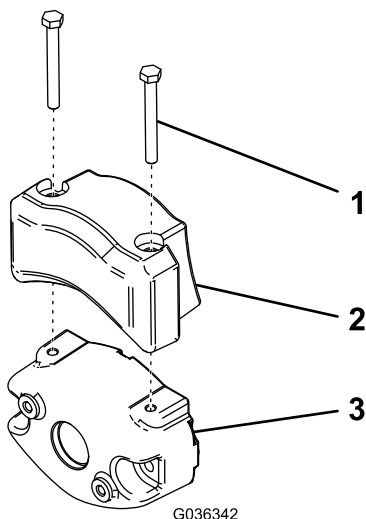

Figure 4
4. Secure the electrical counterweight to the existing counterweight with 2 capscrews as shown in Figure 4.